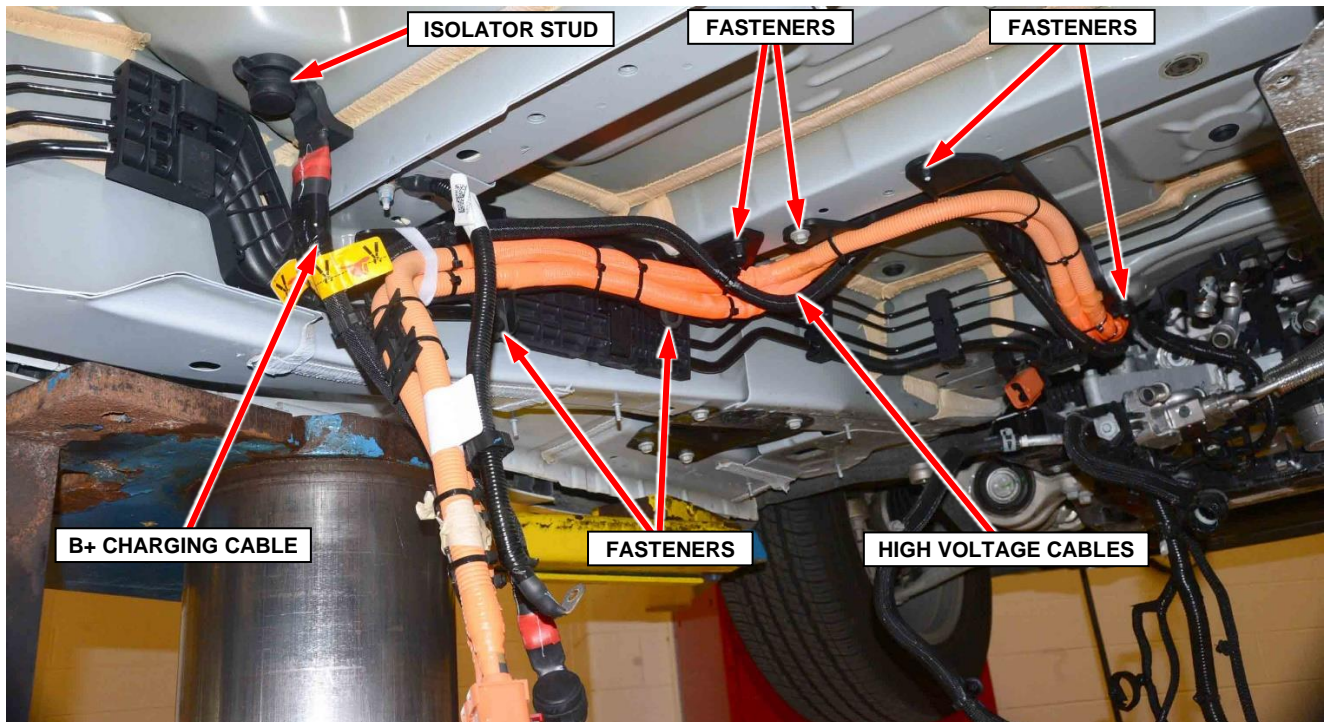

Figure 53 – High Voltage Cables
- 78. Open the protective cover and loosen the B+ charging cable captured nut then remove the cable from the isolator stud (Figure 53).
- 79. Remove the fasteners securing the high voltage cable brackets to the vehicle underbody then allow the cables and brackets to hang down providing access to the fuel lines (Figure 53).
97. Install the fasteners securing the high voltage cable brackets to the vehicle underbody (Figure 53).
98. Install the B+ charging cable to the isolator and tighten the captured nut to 23 N·m (17 ft. lbs.) then secure the protective cover over the terminal (Figure 53).